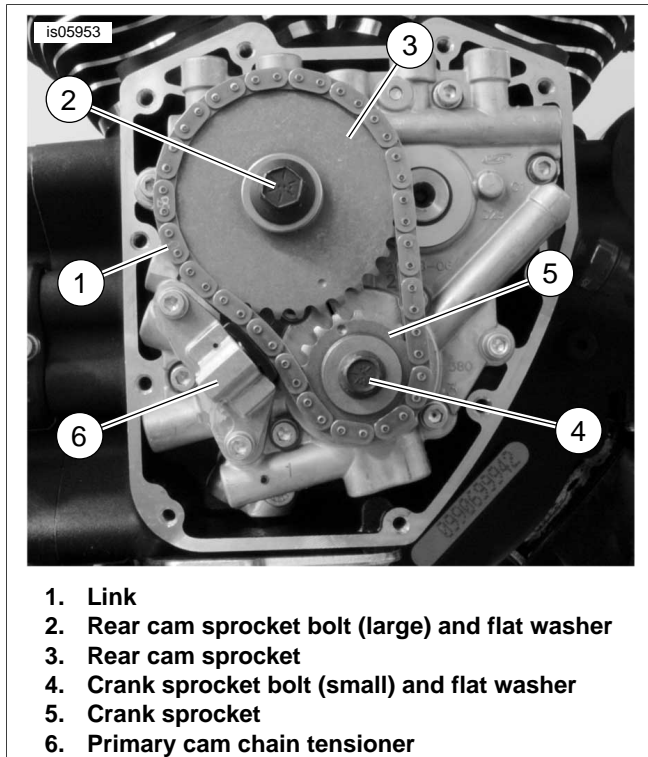

Figure 7. Cam Support Plate Assembly
21. Install the correct style primary cam chain, as noted in Step 20. See Figure 7.